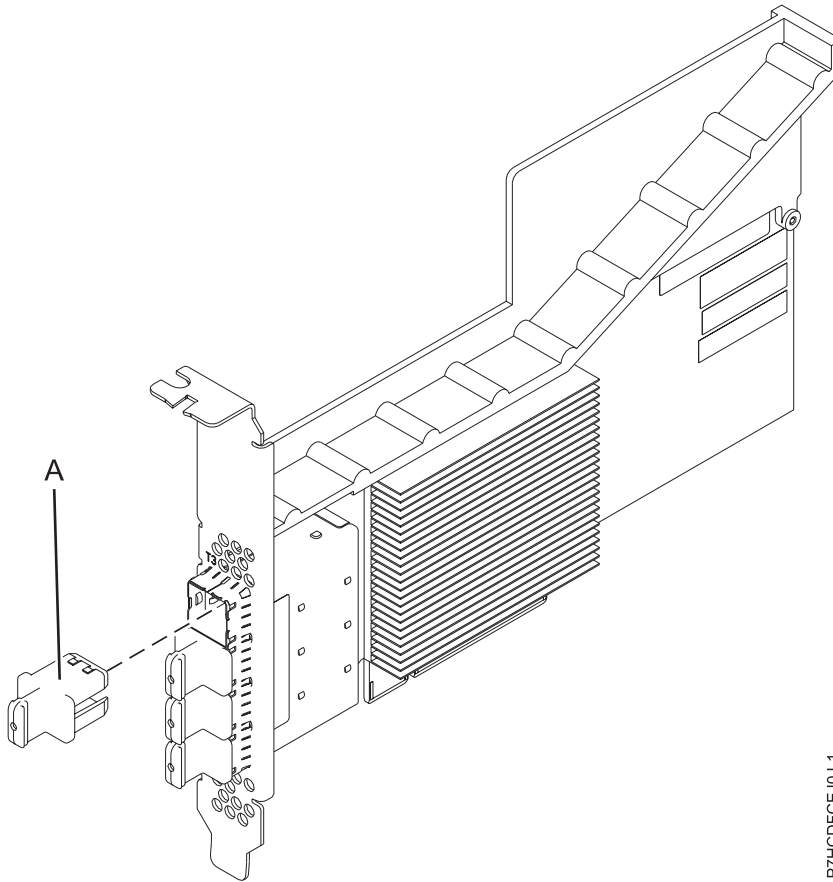

Figure 27. PCIe3 4 x8 SAS Port Adapter
The PCIe3 4 x8 SAS Port Adapter is a PCI Express (PCIe), generation 3, RAID SAS adapter that has a low-profile, short-form factor, but packaged for full height installation. The adapter is used in high-performance and high-density, serial attached SCSI (SAS) applications. It supports the attachment of SAS DVD or SAS tape by using four mini SAS high-density (HD) x4 connectors that allow the physical links to be used in various narrow and wide-port configurations. SAS tape attachment is only supported in a single adapter configuration and cannot be mixed with SAS disk on the same adapter. The adapter does not have write cache. Figure 27 on page 76 shows the PCIe3 4 x8 SAS Port Adapter.
Figure 27 shows the adapter. The connector plug (A) is installed in an empty port and prevents damage to that port whenever a cable for the adjacent port connectors is plugged-in or removed.